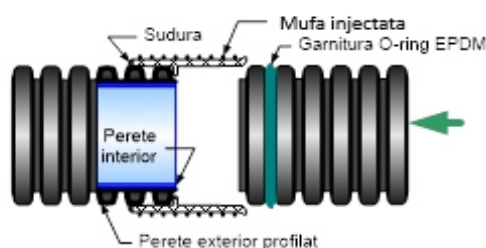

Fig. 1 Connection with injected socket
- Coupling with an injected plug, sealing with an EPDM rubber gasket with a special profile provided by the pipe manufacturer – figure 1.